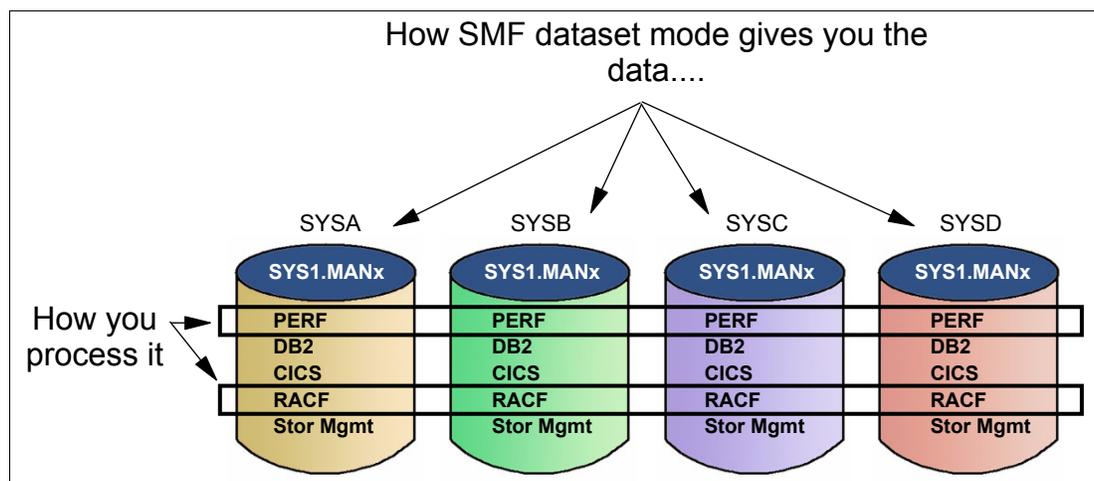

Figure 1-2 How SMF records are stored in SMF dataset mode
- ▶ The SYS1.MAN data sets contain all SMF record types for a given system. However, most enterprises want a sysplex-wide view of a given subset of SMF record types (Figure 1-2). To address the difference between how SMF data is collected and how it is used, customers typically gather a given SMF record type or types for the entire sysplex into a set of GDGs and process the data from there. This means that a certain amount of postprocessing is required to group the SMF records in the way that you want to use them.